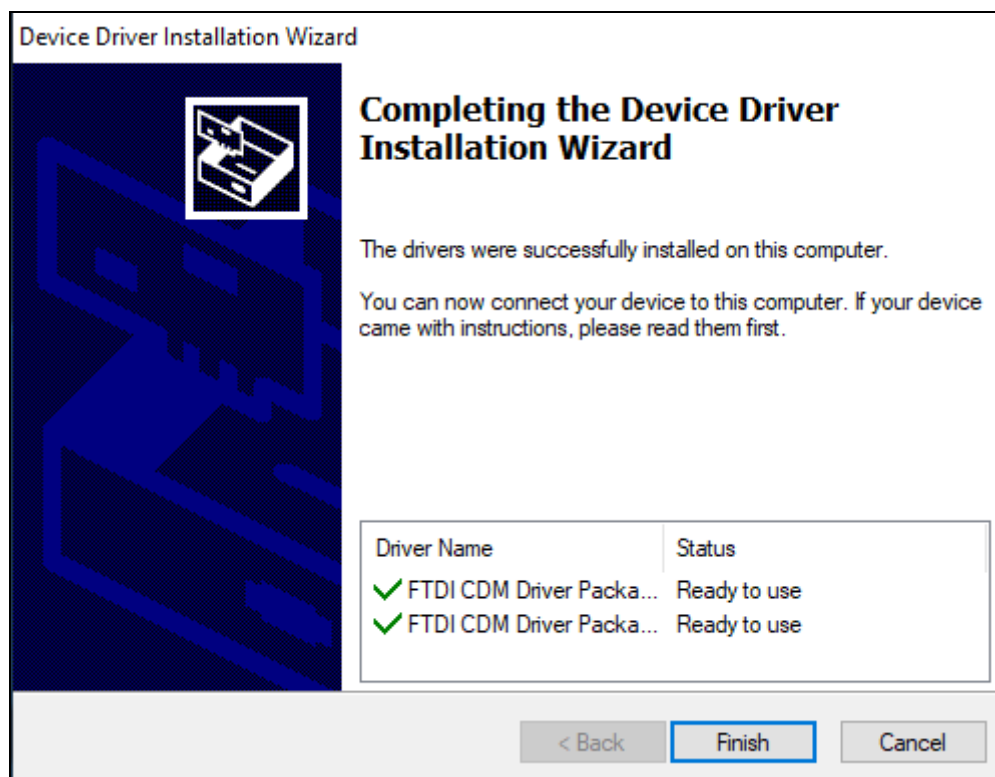

Figure 3.1.4: Finish the USB drivers installation
3. Select "Finish" shown in Figure 3.1.4.